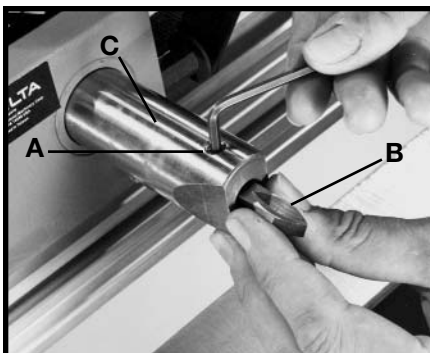

Fig. 73
3. Loosen set screw (A) Fig. 73, and adjust cutting tool (B) as needed. When adjusted properly, the cutting tool (B) should extend approximately 1" out from the cutting tool advancement arm (C).
4. Tighten set screw (A) Fig. 73 after tool adjustment or tool replacement.